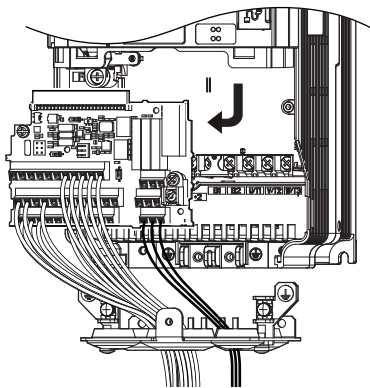

Figure 7.70 Remove the Terminal Board
- Slide the terminal board as illustrated by the arrows in Figure 7.70 to remove it from the drive along with the bottom cover.